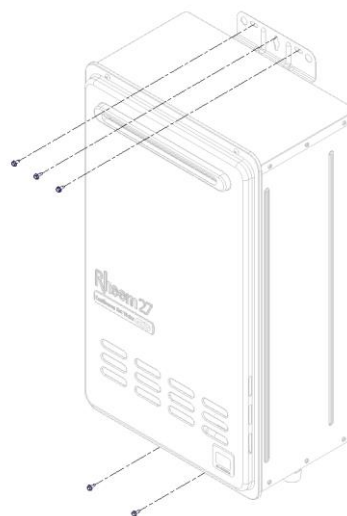

Figure 5
4. Unscrew the CFWH units from the frame mountings. Three screws at top and two at bottom of CFWH units (refer to **Figure 5**).